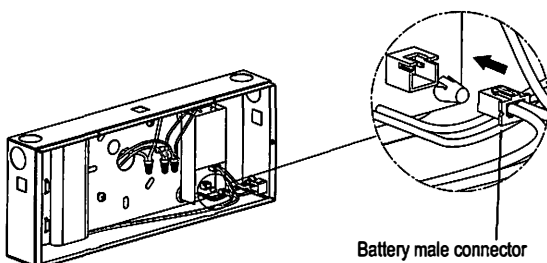

Fig 5
7. Connect Battery connector to PC board (see Fig 5).